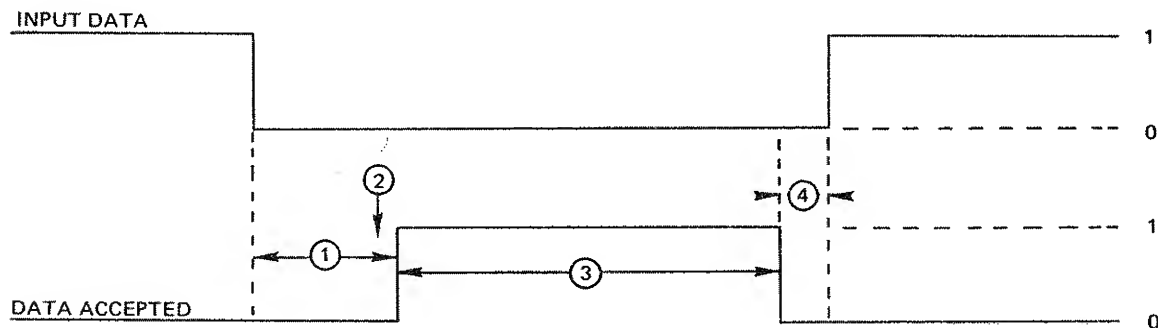

Figure 07-1. Data Entry Timing
Figure 07-1 shows the data entry timing sequence. The input data line debounce time (1) is typically 16 to 18 ms. Data is latched into the counter 48 μ s before the data accept line goes high (2). As soon as the data accept line goes high, all data (except remote enable) can be removed. The data accept line stays high while the counter processes the input data. This process is data dependent, and can take from 1 to 140 ms (3). To prevent the counter from setting the pole mode, the input data line must go high within 100 μ s after the data accept line goes low (4). If pole mode is set, the next data read cycle will occur between 0 and 100 ms after the high to low transition of the data accept line. After this first data read cycle, all subsequent data read cycles will occur at 100 ms intervals.